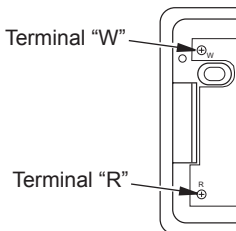

Figure 26 - Thermostat Base Terminals
6. Connect one bare wire end to each terminal ("W" and "R") of the thermostat base (see Figure 26).